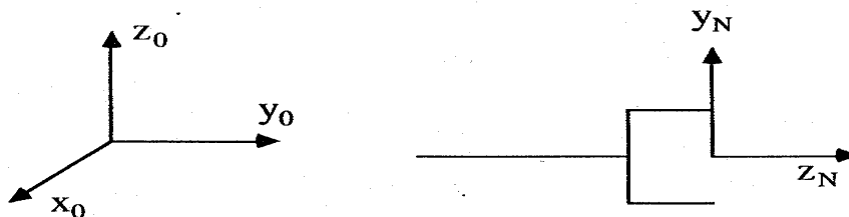

Figure 3
3. Coordinate frame N is attached to an end-effector as shown in Figure 3. It is desired to design an N -joint robot that can provide the following position and orientation of the end-effector: